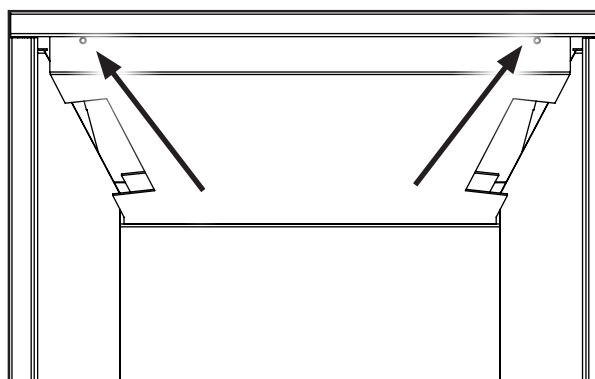

Figure 62. Top Panel Screws.
8. Install the top porcelain panel by screwing it to the firebox baffle as show in Figure 62 using the supplied screws.